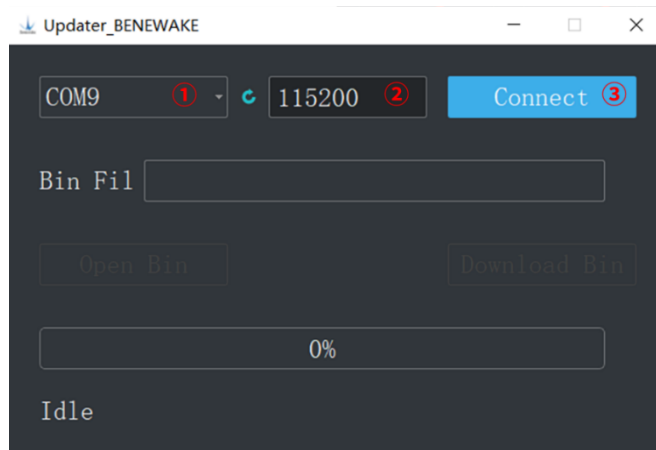

Figure 6-1 Connect the TF02-Pro with the software
- 1) Run Updater_BENEWAKE.exe, Select right port, here is “①COM9” . Input the right baud rate in “② 115200” and click “③ CONNECT” to connect the TF02-Pro with the software. As shown in Figure 6-1.